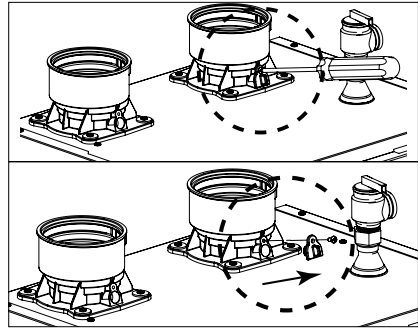

Figure 4 – TFTN285 Combustion Test Port
Remove the Combustion Test Port plug / cap, as illustrated (Figures 4 & 5), and insert a calibrated combustion analyzer.
3. Reinstall the Combustion Test Port plug (see Figures 4 & 5).